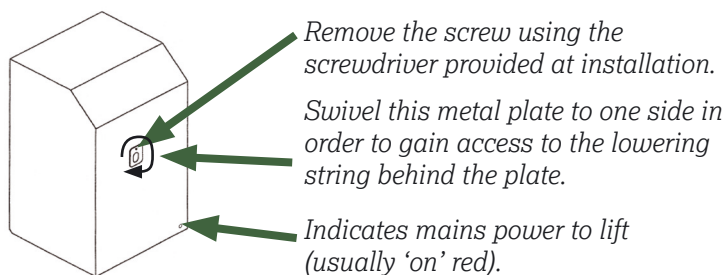

Figure 5.
- Locate the hydraulic power unit, normally outside the property (Figure 5).
- Swivel the small metal cover plate on the front face of the housing to reveal an access hole (Figure 5).